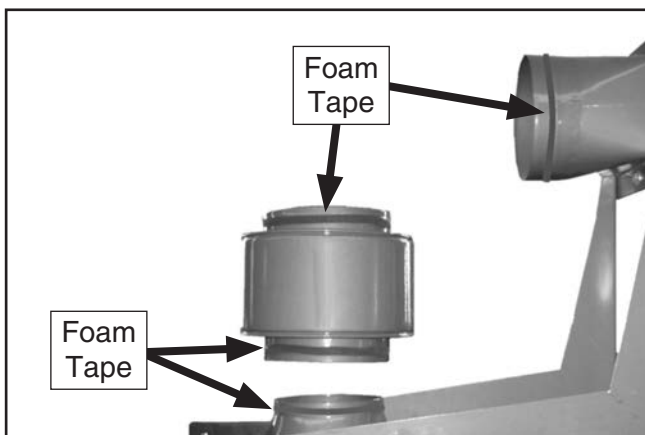

Figure 22. Foam tape applied to upper components (Model G0441).
- a. Apply the 3 x 15mm foam tape to the lips of the outlet port, canister adapter, and both ends of the muffler, as shown in **Figure 22**.